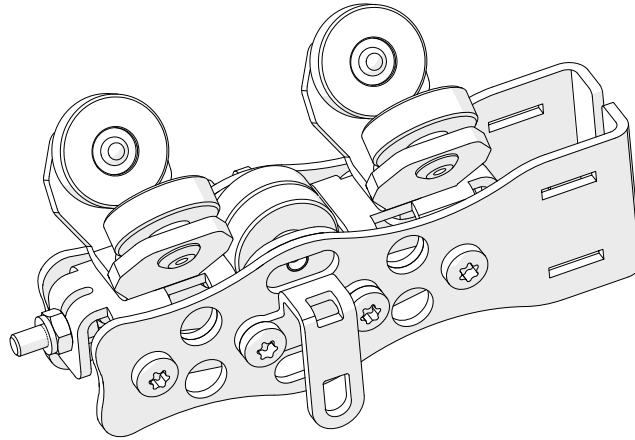

Fig. 59: Completed conversion to OFFICE master runner without overlap arm
- ✓ The master runner is fully assembled (see Fig. 59). The magnet plate is attached after hanging the outer layers (see also *Chapter 5.8.2 Attaching outer layers to OFFICE master runners* [► p. 92]).